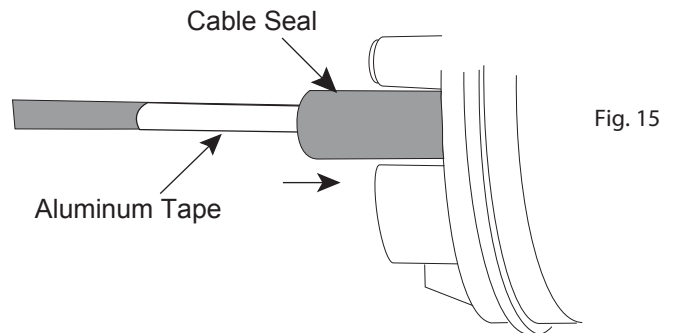

Fig. 15
6. Slide the tube back onto the port, being sure that the edge of the tube butts against the FOSC 400 base. (Figure 15)